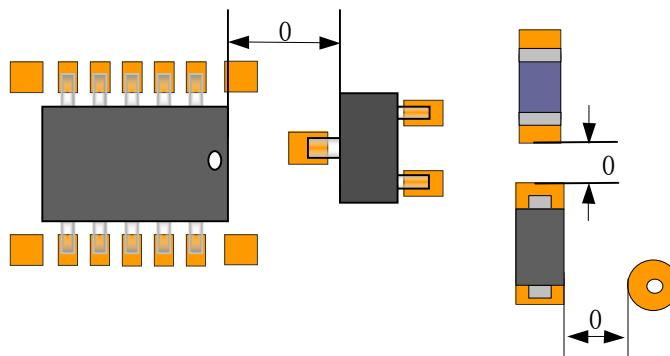

Figure 26: Layout of components of different types and PCB structures.
- For different component types, the solder pad edge spacing should be  $\geq 1.0\text{mm}$ . Distance requirements are shown in Figure 26 and Table 4.